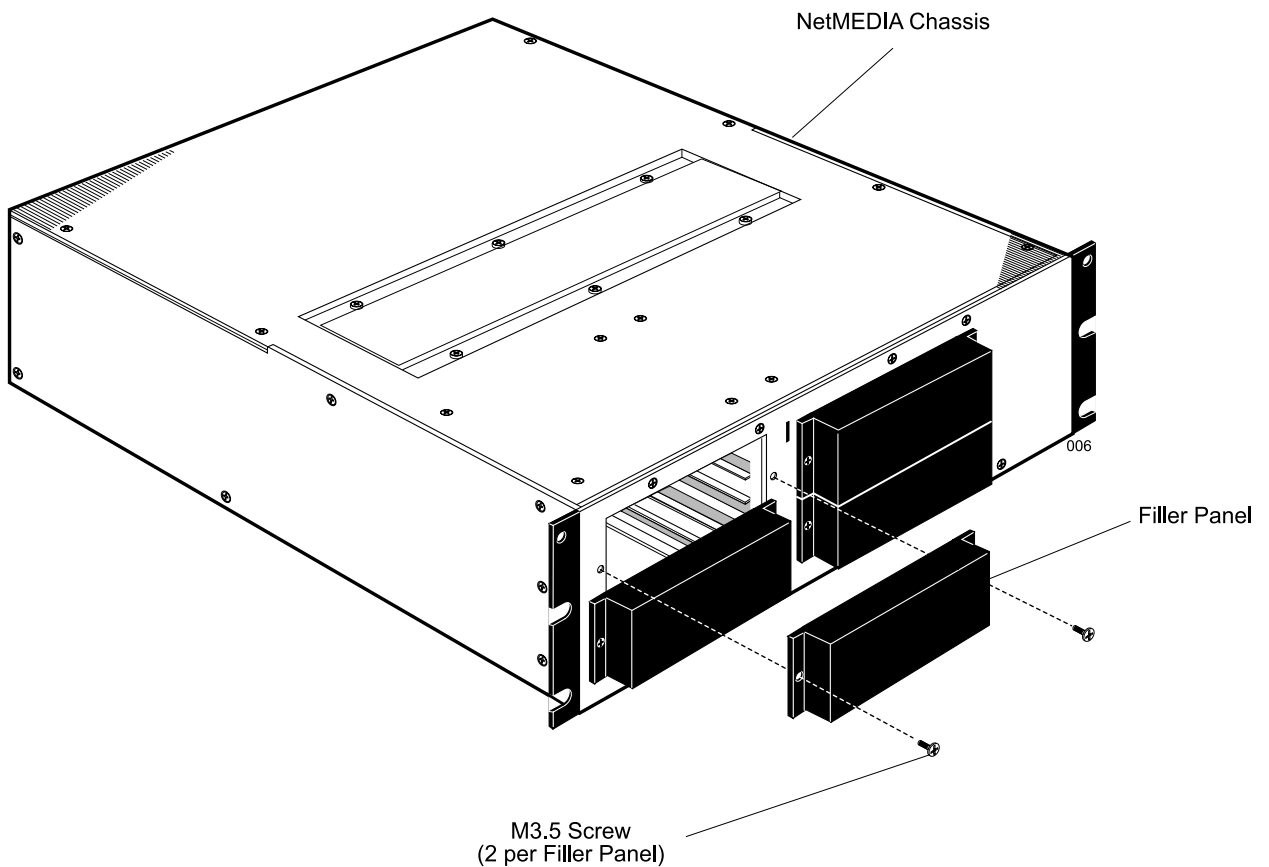

Figure 6: NetMEDIA Filler Panel Removal
1. Unscrew the two (2) M3.5 screws which secure the filler panel(s) to the chassis (Figure 6). Remove the filler panel(s).